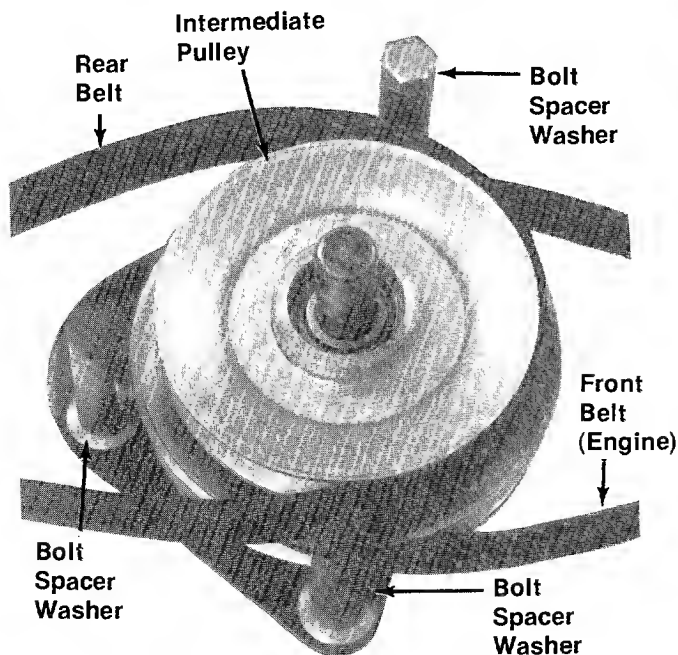

FIGURE 12
7. Unhook the rear belt from the intermediate pulley. See figure 12.